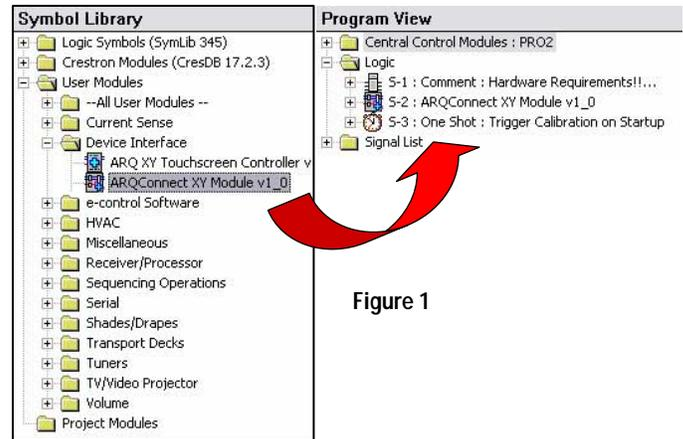

Figure 1
1. From the Symbol Library, select the **ARQConnect XY Module v1_0** module and drag it into your Logic folder under Program View (**Figure 1**)